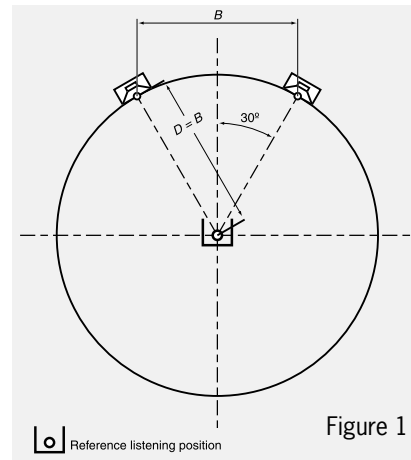

Figure 1
2. eXo2 is compatible with XLR, TRS, RCA and 3.5mm stereo plug input connections and can be used simultaneously. You will need a total of two (2) XLR, TRS or RCA inputs cables, or one 3.5mm stereo cable, for a stereo monitoring configuration (input cables *not supplied*). For more information on connecting your system, please see page 6 [System Signal Connection and Level Settings].
5. Placing the eXo2 SATs: The recommended position for the SATs is based on an ITU standard and sets the speakers at 60 degrees from the listener, forming an equilateral triangle (a triangle with equal sides) - See Figure 1. Fortunately, this setup eliminates most of the math and is easily simplified to the following guidelines: If you want to sit 1 meter (39.37 inches) from the speakers, place the speakers 1 meter apart. If you want to sit 2 ft from the speakers, place the speakers 2 ft apart. Etc. The monitors can be positioned on a console, desk, or mounted using wall mount brackets, etc. For more information see page 8 [eXo2 SAT mounting and placement options].